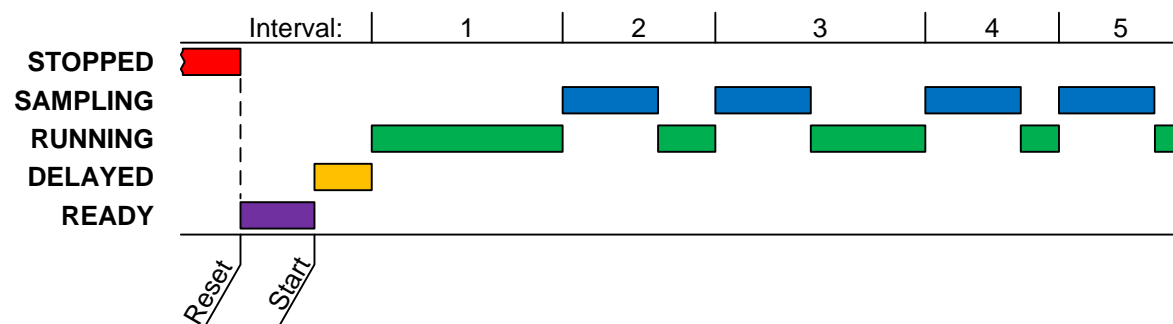

Figure A-3: Basic Sample Timing Diagram
- If a non-zero value (up to 9999 minutes) has been assigned to the Delay Start run Option (see page 54), the first sampling interval will be further delayed by that many minutes (see Figure A-3 on page 94). Until then, the program will display its operating state as DELAYED.